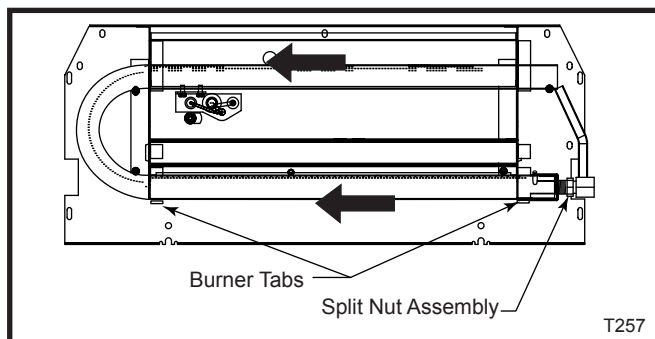

Fig. 50 Bend tabs down, loosen split nut assembly and slide burner tube to the left.
2. Use screwdriver and bend burner tabs outward. (Fig. 50)
3. Loosen the split nut assembly to remove from burner/air shutter. Slide burner tube to the left and off burner orifice. (Fig. 50)